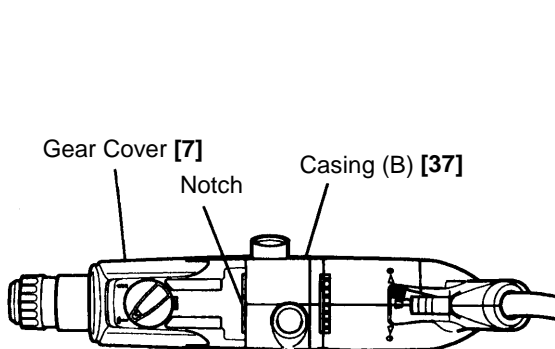
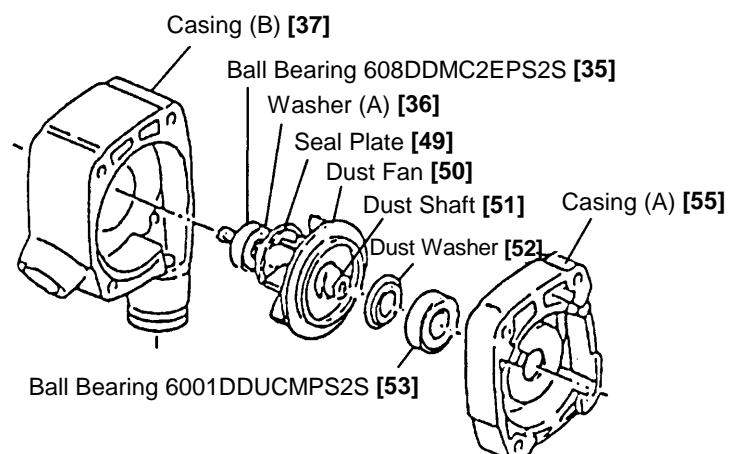

Fig. 11
Fig. 12
(1) Disassembly of the Dust Collection Mechanism: Refer to Fig. 11 and Fig. 12.